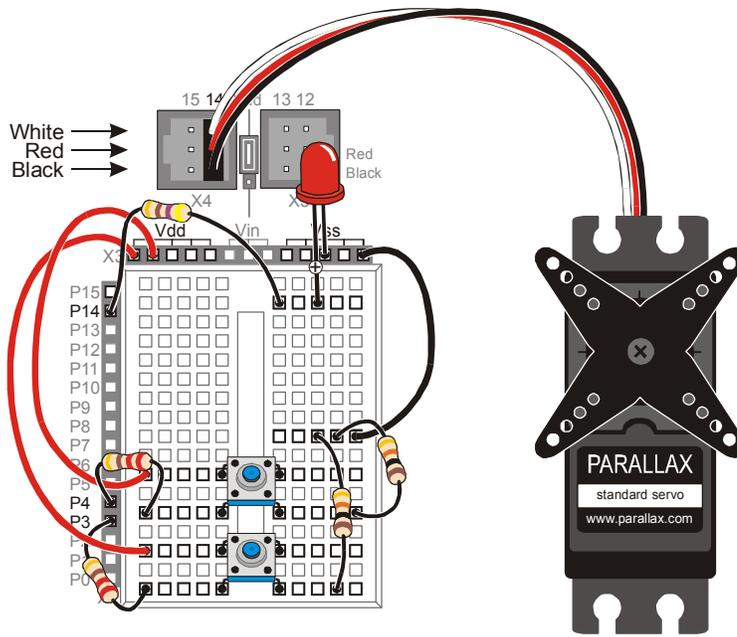

Figura 4-21
- Alla Figura 4-21 se state usando la Board of Education Rev C